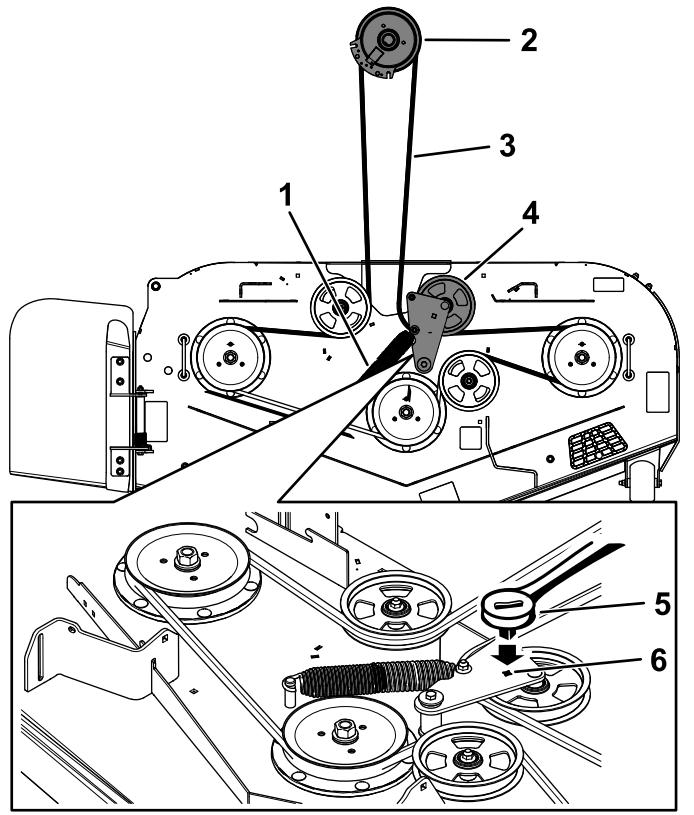

Figure 64
- Use a 3/8-inch ratchet in the square hole in the idler arm to remove tension on the idler spring (Figure 64).
- Remove the belt guide on the spring-loaded idler arm (Figure 64).
- Install the new belt around the mower pulleys and the clutch pulley under the engine (Figure 64).
- Install the belt guide on the idler arm (Figure 64).
- Using the 3/8-inch ratchet in the square hole, install the idler spring (Figure 64).